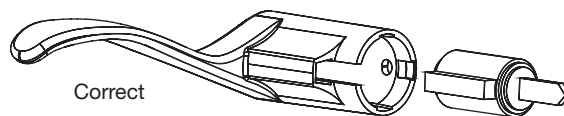

Figure 3A
- A. Insert key in cylinder (outside lever handle); rotate key 90° clockwise.
- C. Insert cylinder in "new" outside lever (Fig. 3A).
**NOTE: "Swoop" of lever handle must be oriented in upward direction as shown in Fig. 3A**